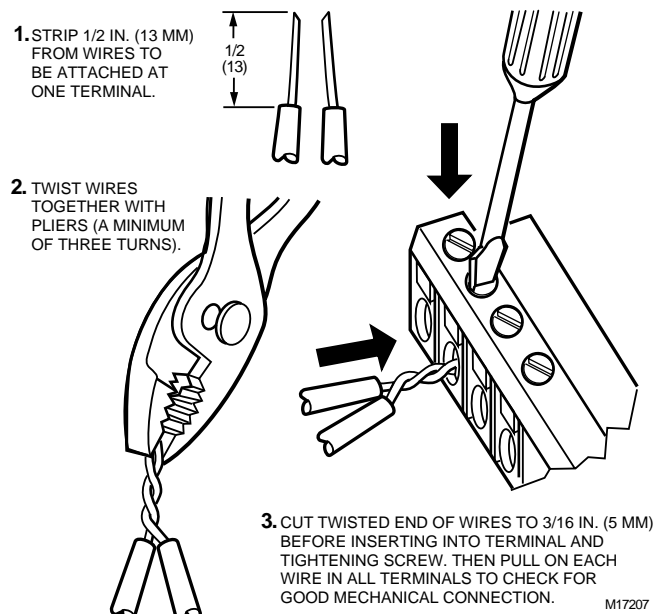

Fig. 8. Attaching two or more wires at terminal blocks.
NOTE: When attaching two or more wires to the same terminal, other than 14 AWG (2.0 sq mm), be sure to twist them together. Deviation from this rule can result in improper electrical contact. See Fig. 8.
3. If two or more wires are being inserted into one terminal location, twist the wires together a minimum of three turns before inserting them, See Fig. 8.
(For note 2, refer to Fig. 8.)